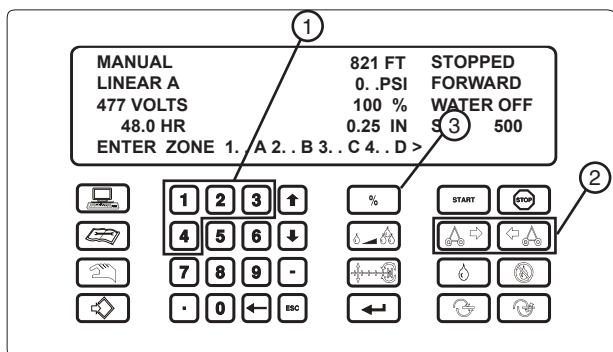

Figure 80-2 1. Numeric Keys 2. Direction Keys 3. Percent Key
Select a Zone 1=A, 2=B, 3=C 4=D. See figure 80-2.
5. Select the direction of movement for the span to pivot. See figure 80-2.
6. Press  to set the percent timer to the desired percentage. See figure 80-2.